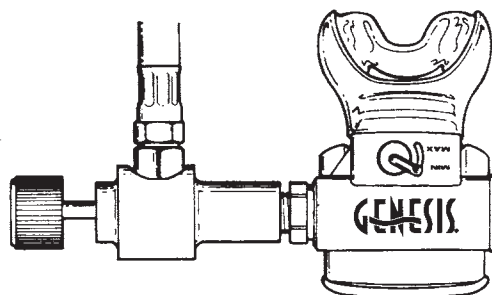

Figure 8
- a) Lightly lubricate and install the two o-rings (item 29 and item 30) on to the intermediate pressure hose (item 28).
- d) Thread the swivel end of the second stage hose on to the Valor In-Line Adjustment Tool (G1001-95) by turning the swivel nut clockwise, hand tight. Pull back the adjustment knob to retract the screwdriver end, and thread the second stage on to the adjustment tool hand tight. *Figure 8.*